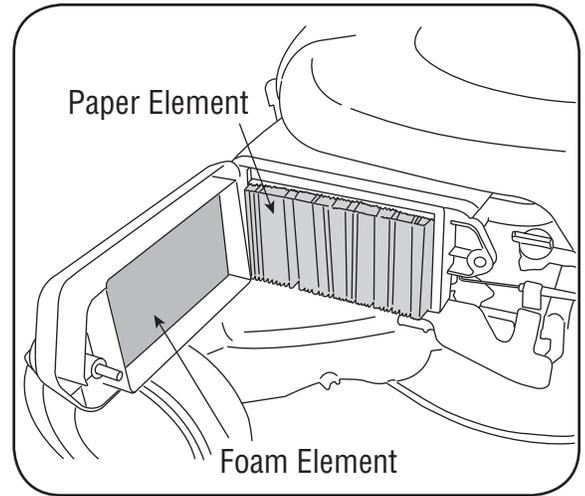

Figure 4-2
1. Remove the wing bolt and the air cleaner cover. Remove the elements and separate them. See Figure 4-2. Replace paper element when dirty or damaged. Replace foam element when damaged.